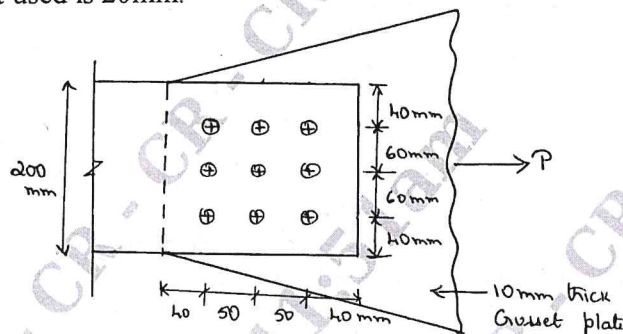

Fig.Q.7(b)
- b. Determine the design tensile strength of the plate 200 × 10mm with bolts as shown in Fig.Q.7(b). The yield and ultimate strengths of steel are 250MPa and 410MPa respectively. The diameter of bolt used is 20mm. (10 Marks)